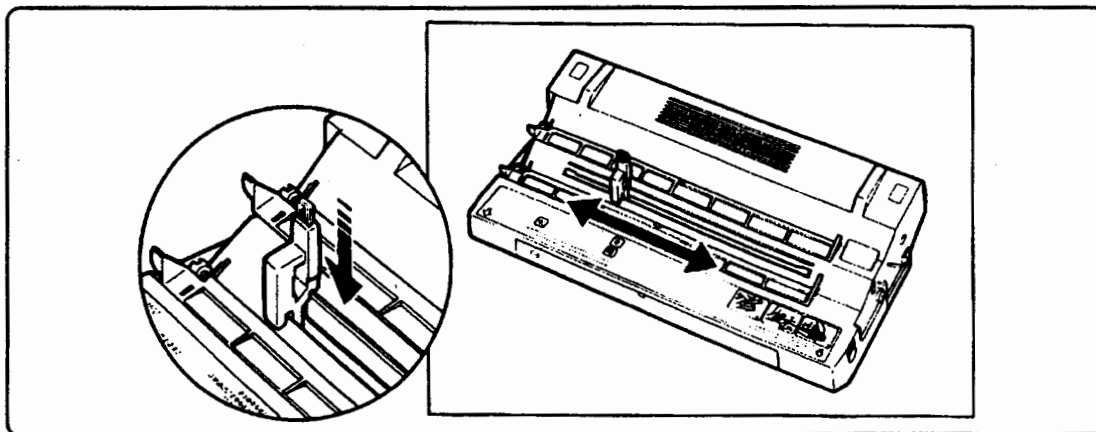

Figure 4-9. Cleaning the Primary Corona Wire in the EP-S Cartridge
5. Carefully insert the felt-tipped end of the brush in one end of the EP-S cartridge slot, as shown in Figure 4-9. (The brush will fit only one way. Look carefully at Figure 4-9 for the correct way to position the cleaning brush.)